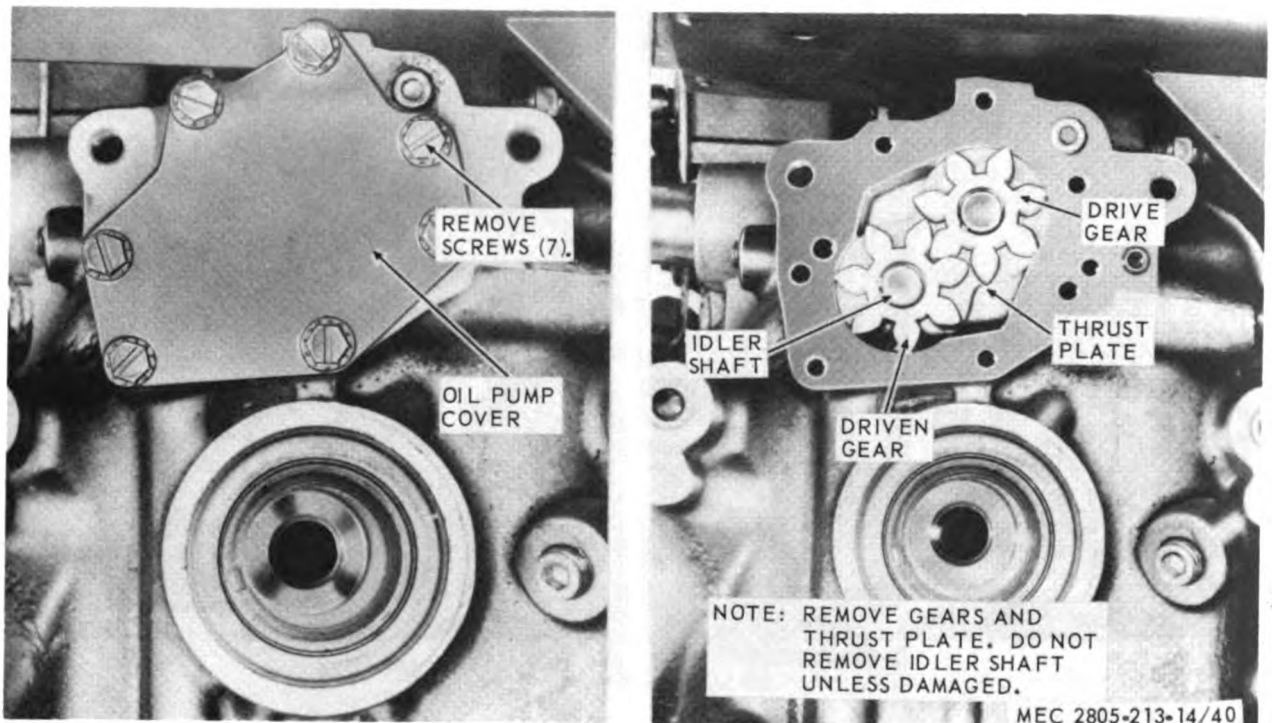

Figure 5-9. Oil pump cover and oil pump gears, removal and installation.
- (1) Remove the flywheel housing (para 5-10).
- (2) Refer to figure 5-9 and remove the oil pump cover and oil pump gears.
(1) Refer to figure 5-9 and install the oil pump gears, and oil pump cover.
(2) Install the flywheel housing (para 5-10).